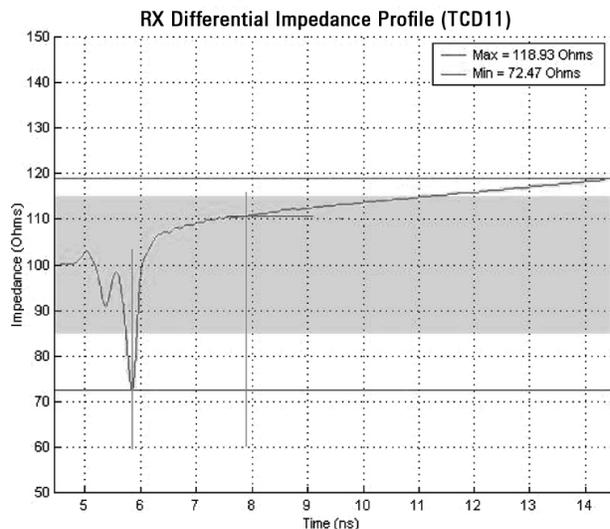

Figure 14. Tx/Rx Impedance
- H. Record the impedance value at the point occurring 2 ns after the last major capacitive dip (see Figure 14).